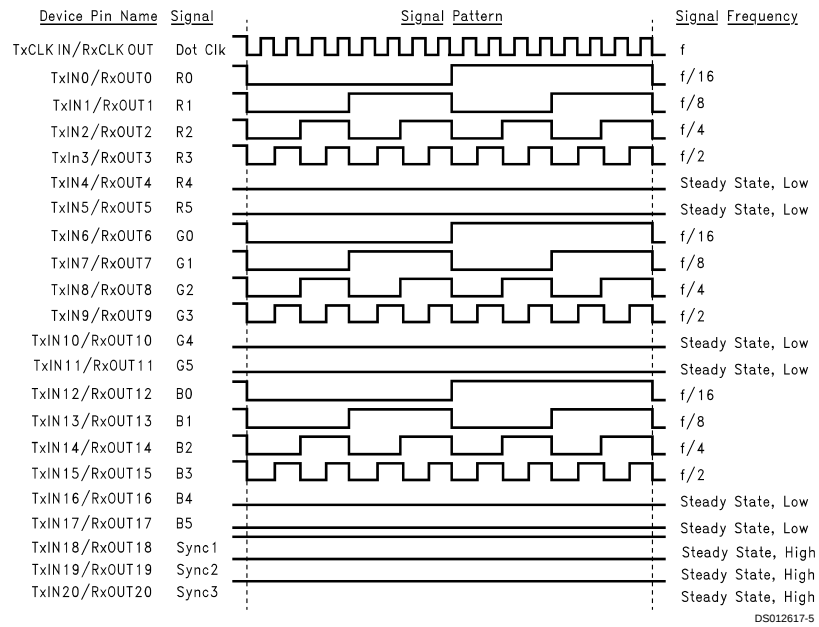

FIGURE 2. "16 Grayscale" Test Pattern
| I CCTG               | Transmitter Supply Current, 16 Grayscale                      | R L = 100Ω, C L = 5 pF, 16 Grayscale Pattern (Figures 2, 3) | f = 32.5 MHz           |       | 40              | 55    | mA |
| $I_{CCRG}$                        | Receiver Supply Current, 16 Grayscale  | $C_L = 8$ pF, 16 Grayscale Pattern (Figures 2, 4) | $f = 32.5$ MHz |     | 35  | 55 mA   |
**Note 9:** Figure 1 and Figure 2 show a falling edge data strobe (TxCLK IN/RxCLOCK OUT).